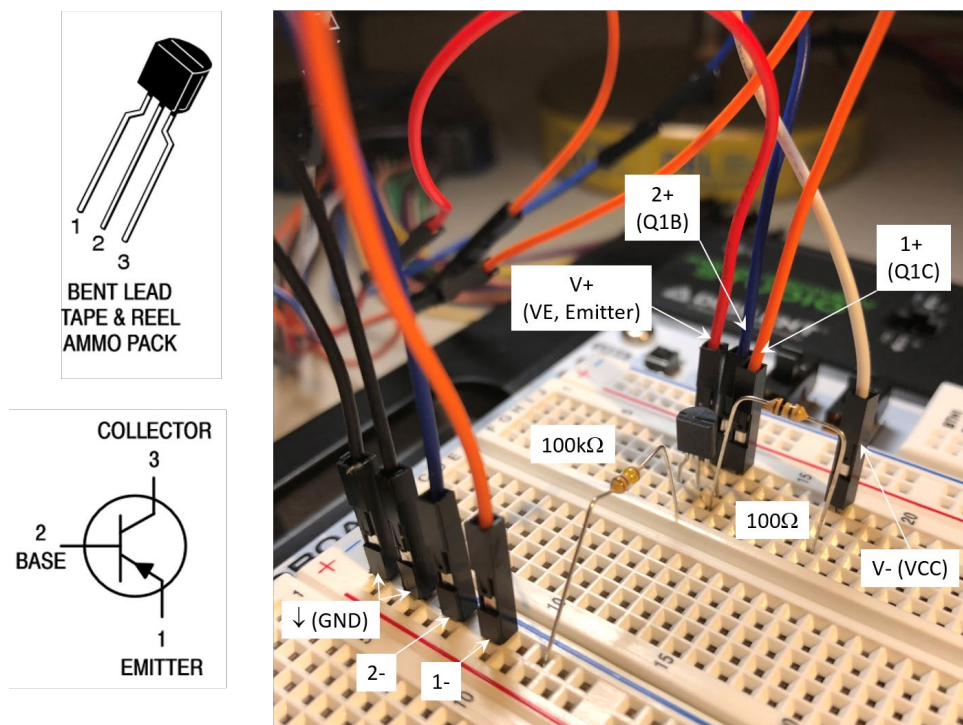

Fig. 4 Experimental setup for the DC characterization of a PNP-BJT 2N3906
2.5 As shown in Fig. 4, prepare the circuit using the same V_E and V_{CC} settings in Steps 2.2 to 2.4.